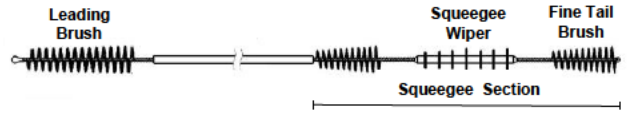
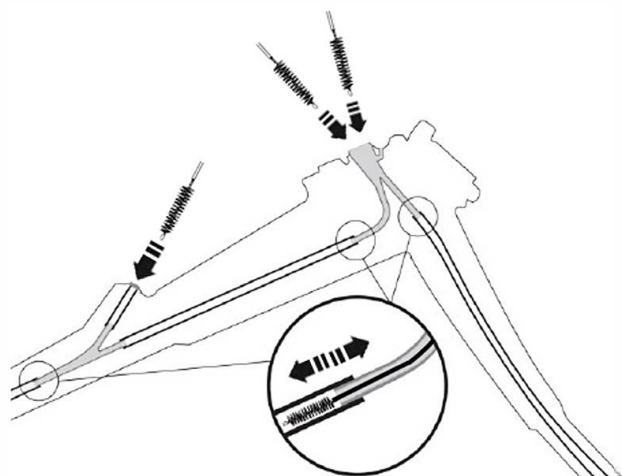
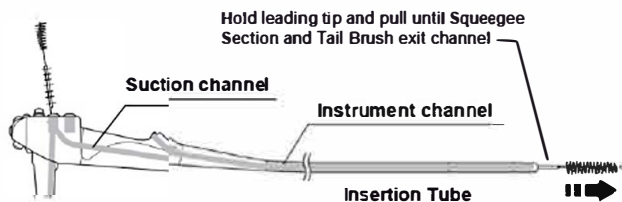
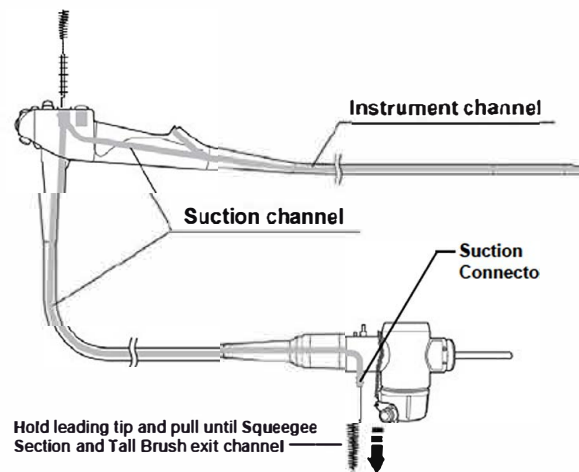

Figure 1A SuperDART® with Squeegee Cleaning Device
Figure 9 Cleaning the connections between metal port and channel
Figure 10 Cleaning Suction and Instrument Channel
Figure 11 Cleaning Suction Channel
### USE – SuperDART® Cleaning Device (Figure 1A)
Advance the Leading Brush (with the protective bullet, see Figure 1A & 8) through the opening in the Suction Cylinder until you feel less resistance, approximately 8cm. Move the brush back and forth 2-3 times to clean the connection of the Suction Cylinder Port to the Teflon channel tube (see Figure 9). Next, proceed with pushing the device through the Instrument Channel until the Leading Brush appears at the end of the Insertion Tube. Use short strokes as not to kink the device catheter. Hold the distal end of the device and pull it through until the Squeegee Section of the device clears the channel exit (see Figure 10). This device has been validated for cleaning the channel effectively with only ONE PASS™ through. With the device still submerged in the detergent solution, inspect and scrub off all debris present on all Bristles and Squeegee Wiper before proceeding to clean the next channel or accessories.
Advance the Leading Brush through the opening in the Suction Cylinder until you feel less resistance, approximately 8cm. Move the brush back and forth 2-3 times to clean the connection of the Suction Cylinder Port to the Teflon channel tube (see Figure 9). Next, proceed with pushing the device through the Suction Channel until the Leading Brush appears from the Endoscope Suction Connector. Use short strokes as not to kink the device catheter. Hold the distal end of the device and pull it through until the Squeegee Section of the device clears the channel exit (see Figure 11). This device has been validated for cleaning the channel effectively with only ONE PASS™ through. With the device still submerged in the detergent solution, inspect and scrub off all debris present on all Bristles and Squeegee Wiper before proceeding to clean the next channel or accessories.
**(3) Brush the connection of the Instrument Channel Port to the Teflon channel tube.** Advance the Leading Brush straight through the opening in the Instrument Channel Port, by approximately 8cm. Move the brush back and forth 2-3 times to clean the connection of the Instrument Channel Port to the Teflon channel tube, see Figure 9. Pull back out the Leading Brush. With the brush submerged in the detergent solution, inspect and scrub off all debris present on all Bristles before proceeding to clean the next channel or accessories.
(4) Use the Leading Brush to clean the Biopsy Valve, Suction Valve and Air/Water Valve according to endoscope manufacturer's instructions.